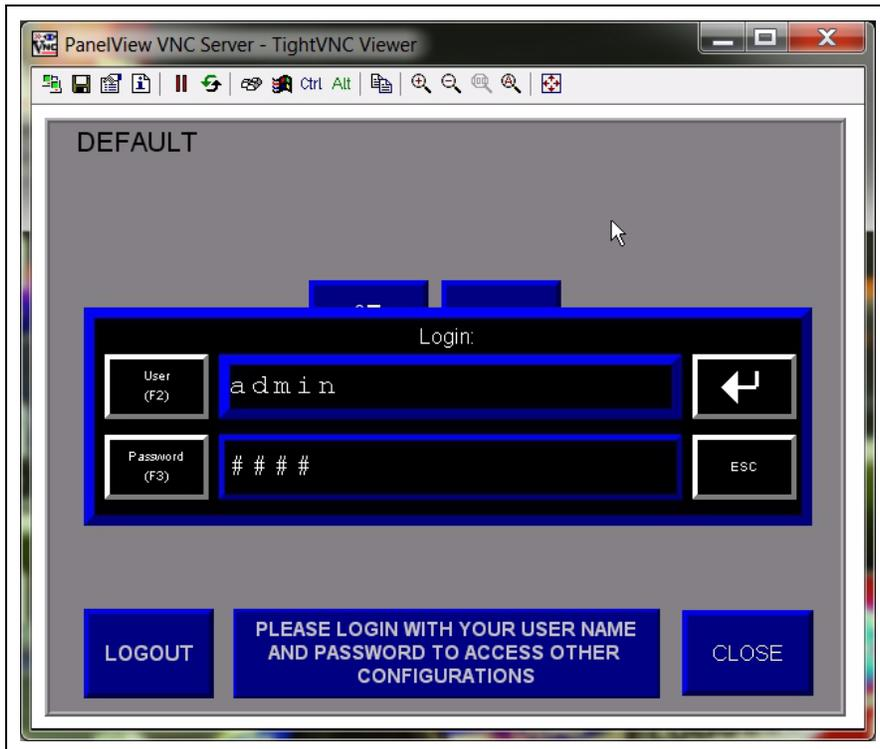

Figure 3D
4. Enter the User name as "admin" and the Password and then press the enter button. (See *Figure 3D*.)